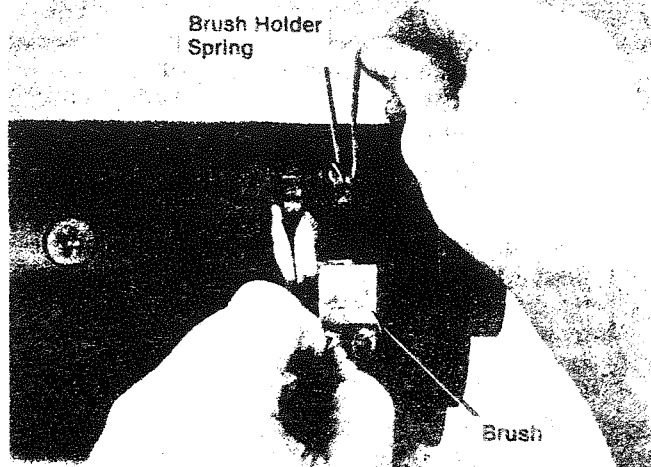

Figure 8
3. Pull springs upward with tool shown in figure 8, and remove the brushes.